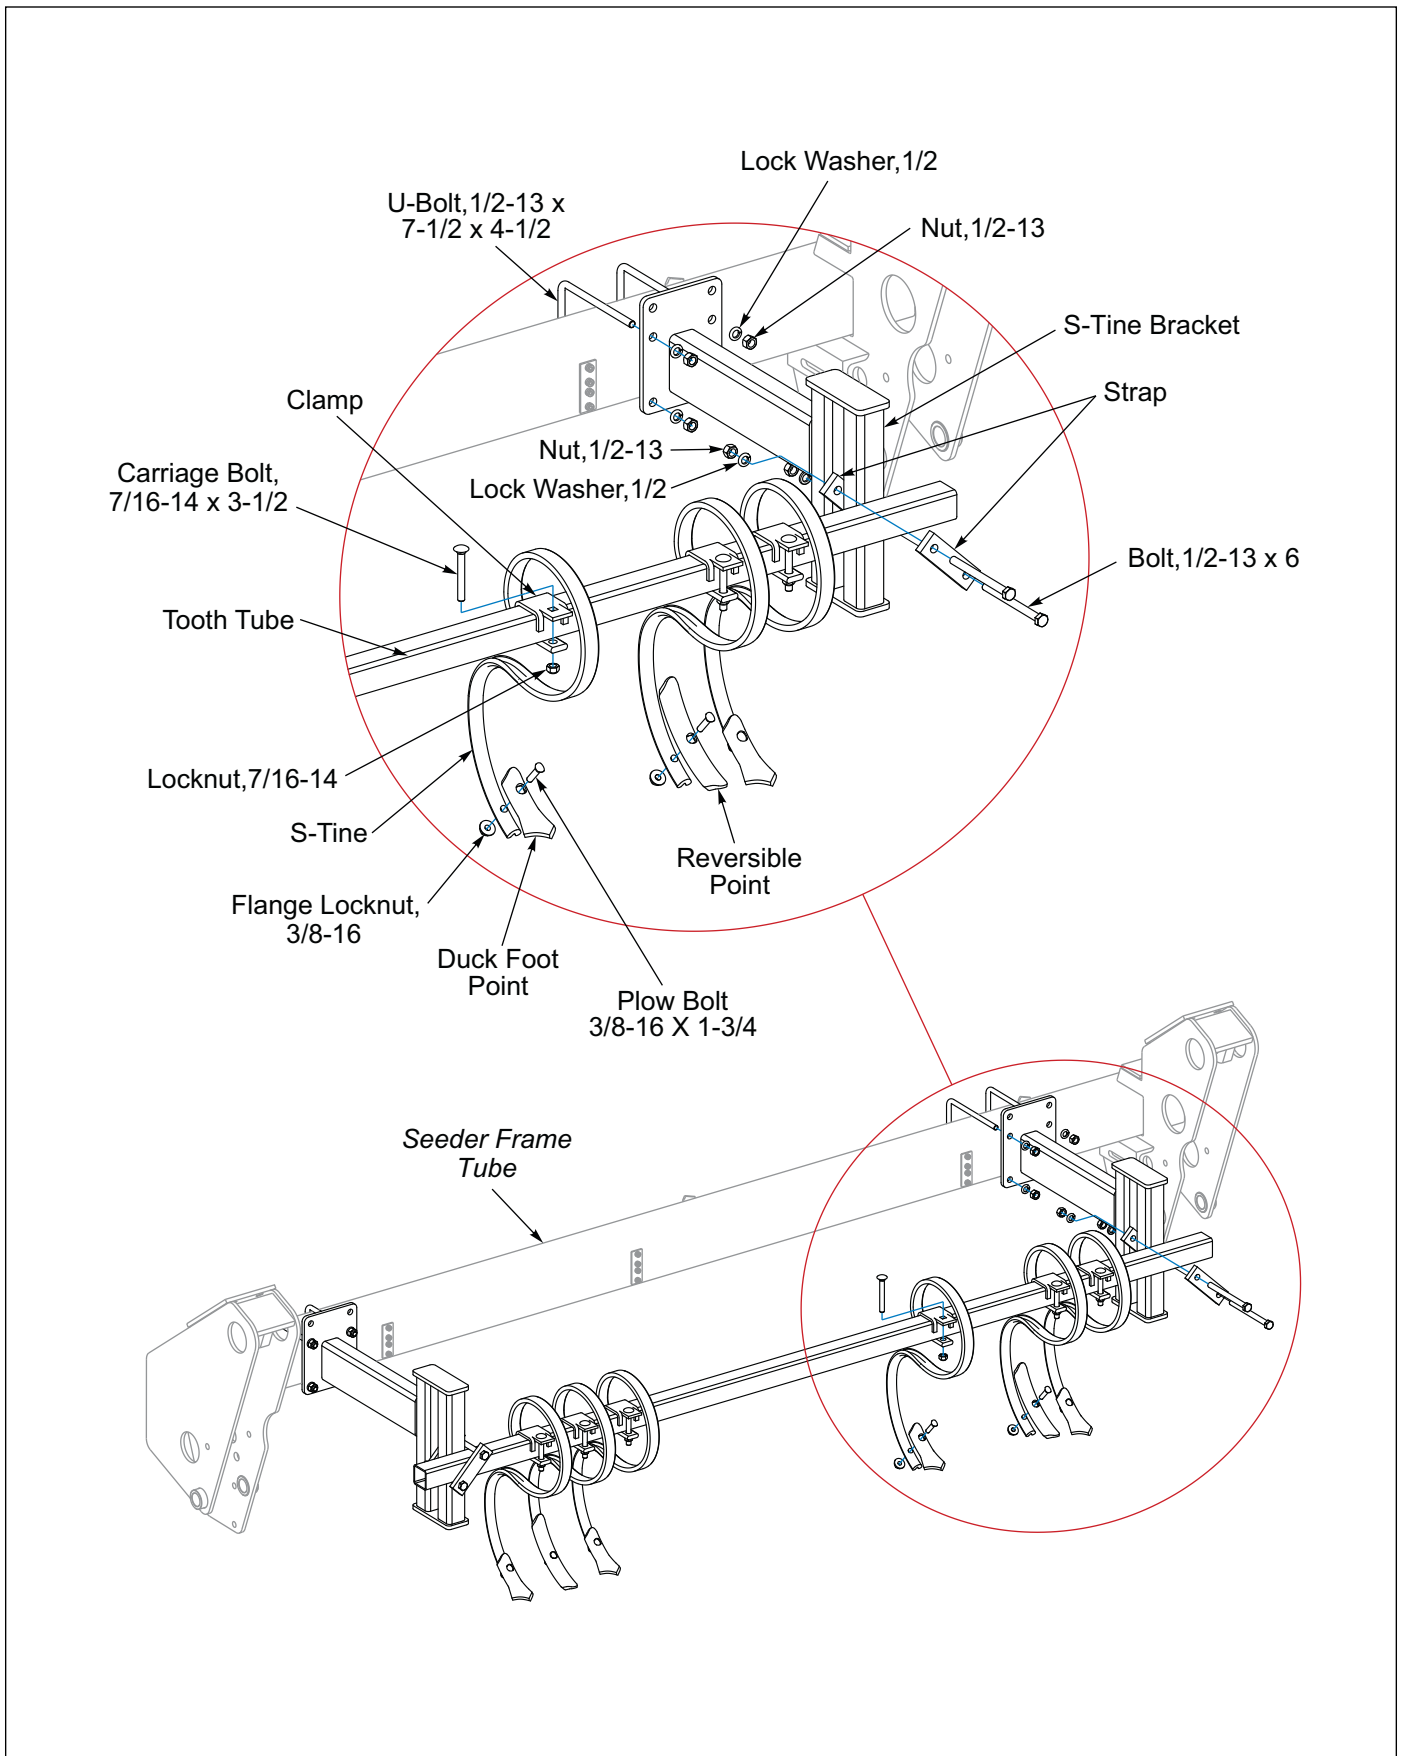

Figure 2-32: S-Tine Track Remover Kit - Optional
1. Assemble the S-Tine Brackets to the front of Seeder Frame Tube with 1/2-13 x 7-1/2 x 4-1/2 U-Bolts, Lock Washers and Nuts. Do Not tighten at this time. See Figure 2-32.